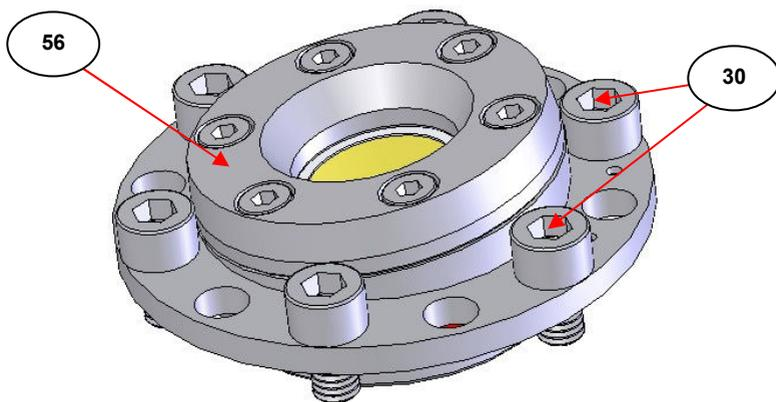

Fig 4. Wedged Window Assembly for Reflectance Mode Operation
From the Introduction section, to use the HTHP Cell in the reflectance mode of operation, the HTHP Cell requires fitment of a special pressure certified wedged window assembly (56). (See Fig 4.) This single wedged window assembly (56) replaces one of the plane pressure certified window assemblies (11) needed for transmission or decomposition modes of operation of the HTHP Cell. It is fitted to the HTHP Cell body (3) similarly to a standard plane window assembly (11) by use of the six M6 x 10mm fixing bolts (30) and it seals via the Silicone O-ring (35).